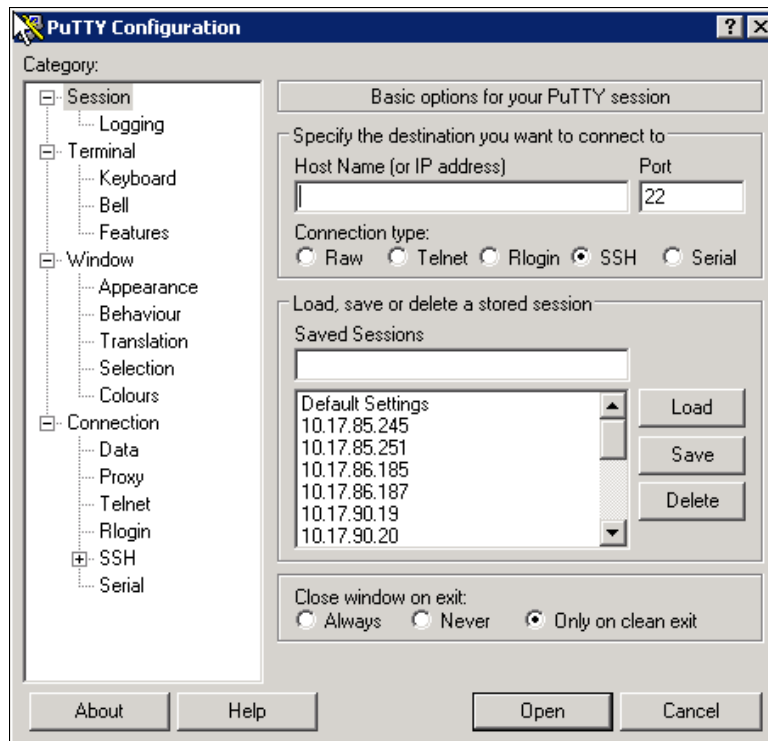

Figure 8-9 PuTTY Main window
1. Start PuTTY. The PuTTY Configuration window opens (Figure 8-9).